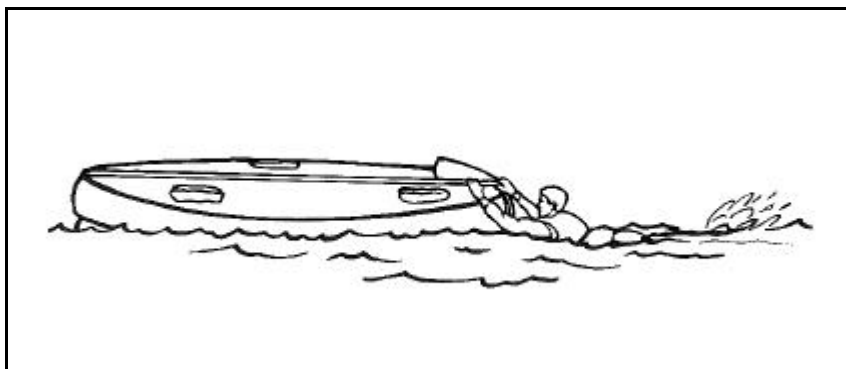

Figure 10-32. Getting Aboard an Overturned Life Raft
- Swim to the side marked "RIGHT HERE." If it is not marked, go to the side where the CO₂ cylinder is located. Reach up and grab the righting strap. Start pulling yourself up onto the raft. It may help to kick your feet out as if swimming (Figure 10-32, page 10-36). If this does not work, try putting your feet or knees into the external lifelines to help you pull yourself up on the raft. Some rafts may right while you are climbing onto them. Others are more difficult to right.